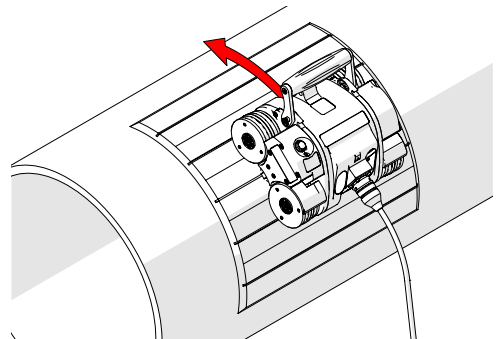
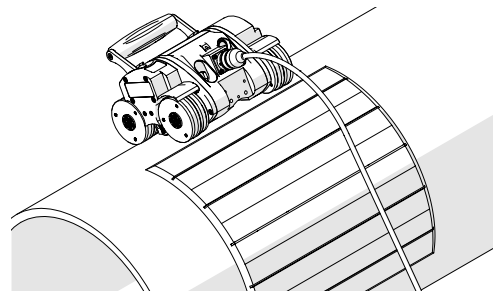

Fig. 100 - Drive crawler off the mat
Fig. 101 - Magnetized to surface
5. Ensure all four wheels of the crawler are held firmly against the installation/removal mat. While holding the crawler, use **Jog Mode** (see “Jog Mode” on page 54) to carefully drive the crawler (Fig. 100) off the installation/removal mat and onto the inspection surface (Fig. 101).